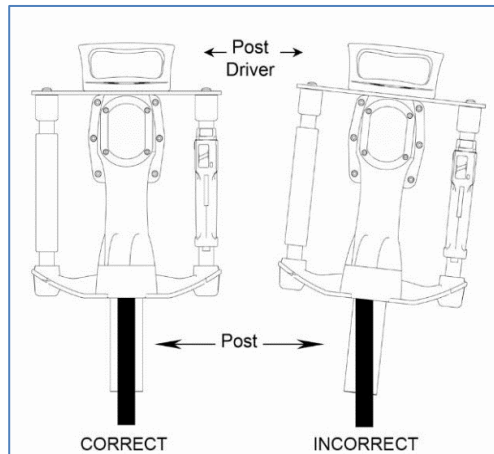

Figure 5: The driver should be kept level to the post during operation.
4. Lift the driver onto the post, then ensure that the driver is level with the post and the post is centered in the barrel of the driver (see Figure 5).